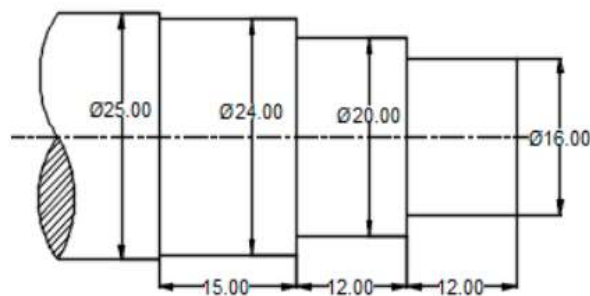

Fig 3 (i)
Q3. Explain the terminology Canned Cycle. Write a CNC program to machine a component as per the given details in Fig 3 (i) (5)